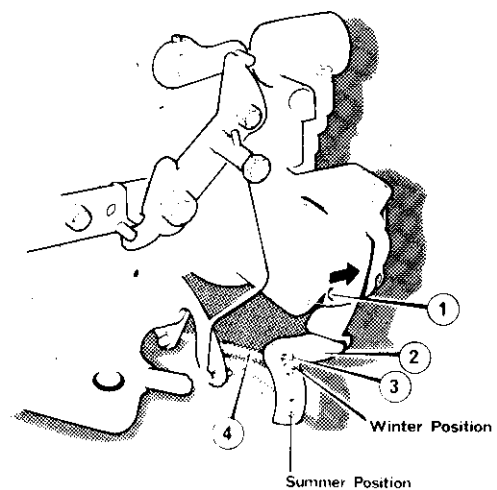

Figure 3 Accelerator pump Summer and Winter positions
1. Using a small punch or similar tool, gently tap out the fulcrum in the direction shown in Figure 3, just enough to release the operating lever from the accelerator pump.